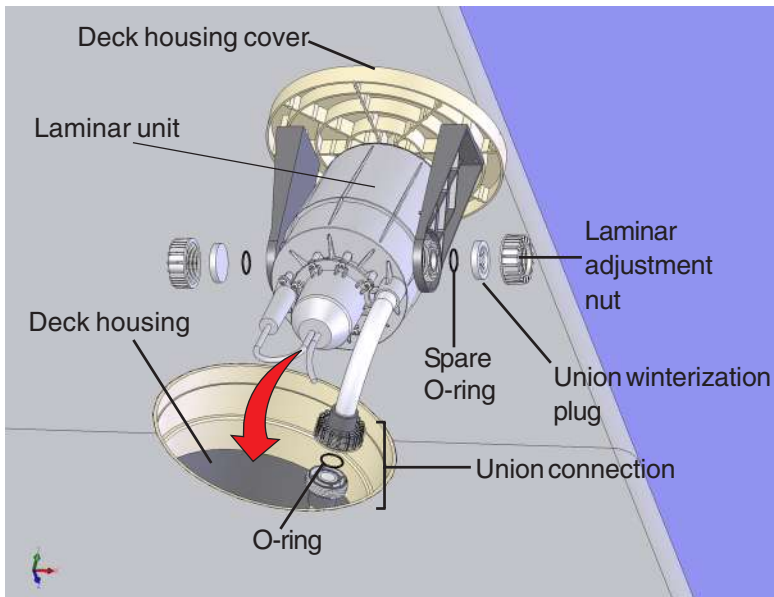

Figure 5
2. Make sure the spare o-rings are in place. Place the union winterization plugs in the Laminar adjustment nuts and screw them in place on the Laminar body (Figure 5).
3. Connect the Laminar to the supply pipe with the union connection (Figure 5). Make sure the o-ring stays in its groove).
5. Place the deck housing lid/Laminar unit in the deck housing (Figure 5). If the hoses in the deck housing prevent the proper seating of the deck housing lid, you may have to loosen the union nut briefly and allow the hoses to twist, so that they spiral out of the way, into the deck housing.